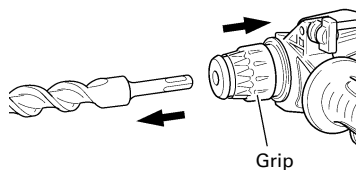

Fig. 2
(3) Check the latching by pulling on the drill bit.
(4) To remove the drill bit, fully pull the grip in the direction of the arrow and pull out the drill bit (Fig. 2).